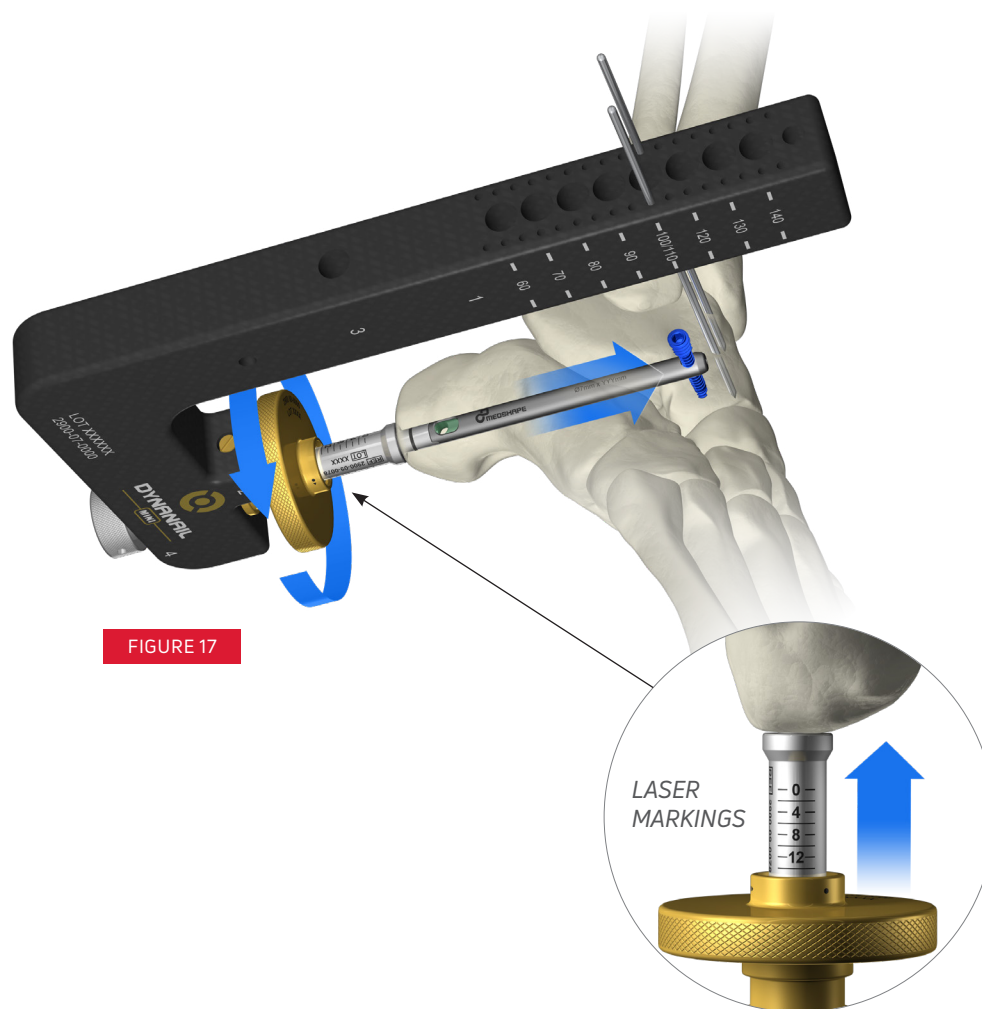

FIGURE 17
Ensure the plantar incision is big enough for the Bone Apposition Sleeve to butt against the bone before applying manual compression (A). To apply manual compression, turn the Compression Knob in a clockwise direction as indicated by the arrows on the Knob (FIGURE 17).